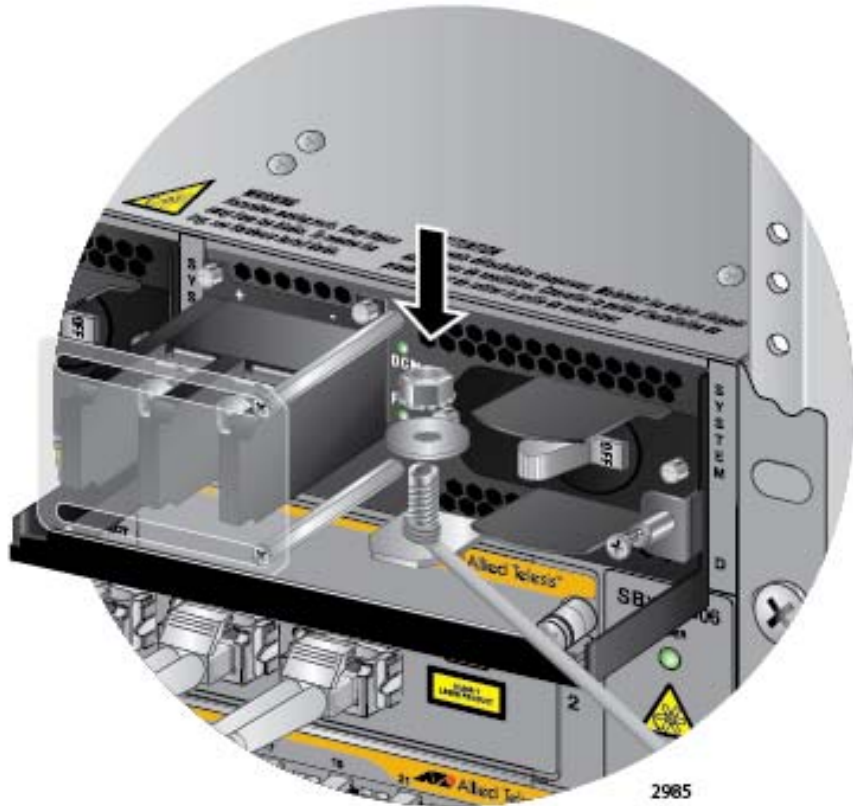

Figure 139. Securing the Bare Grounding Wire to the Grounding Post
4. Secure the wire with the nut and washer removed in step 2, and an 8 mm wrench, as shown in Figure 139.